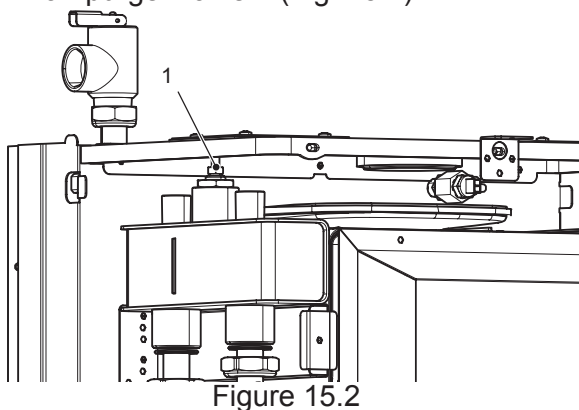

Figure 15.2
- Unscrew the condensing heat exchanger air purger valve 1 (Fig. 15.2).